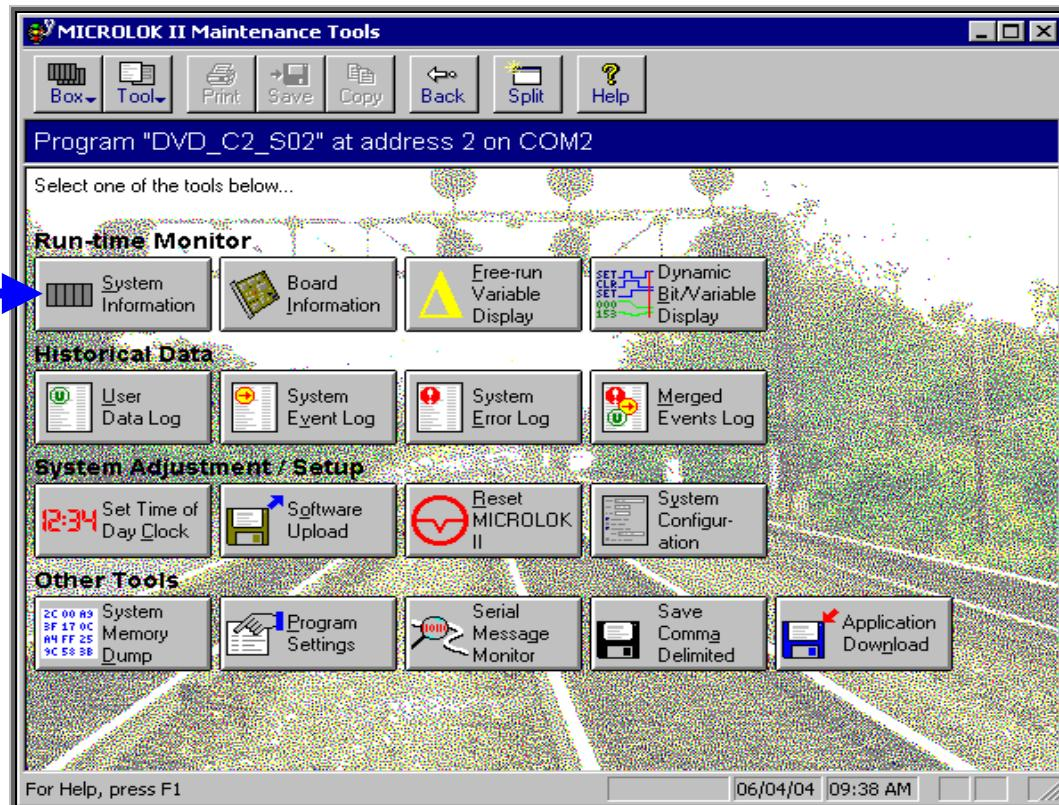

Figure-5.3.1
- ❖ To view system events on the system information display, click on the “**System Information**” button on the Maintenance Tools main menu (Figure-5.3.1).